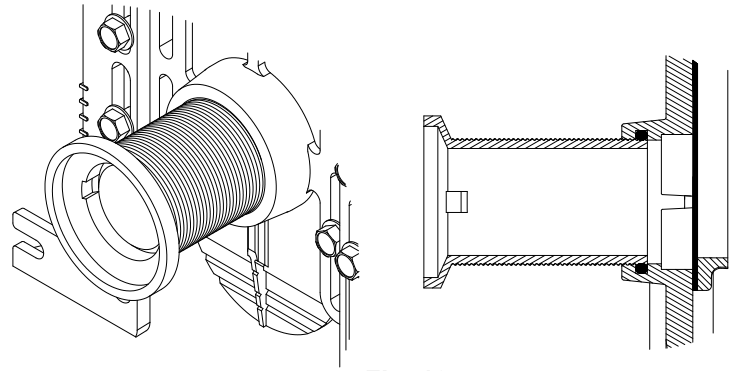

Fig. 12
- a. Standard, -CS, and -CC Couplings (Z) - Thread the coupling into the faceplate by hand until it engages the o-ring and begins to resist. Using a coupling wrench (Z1200-CPLG-WRNCH-3 purchased separately), continue to turn the coupling into the o-ring to create a water-tight seal. See Fig. 12